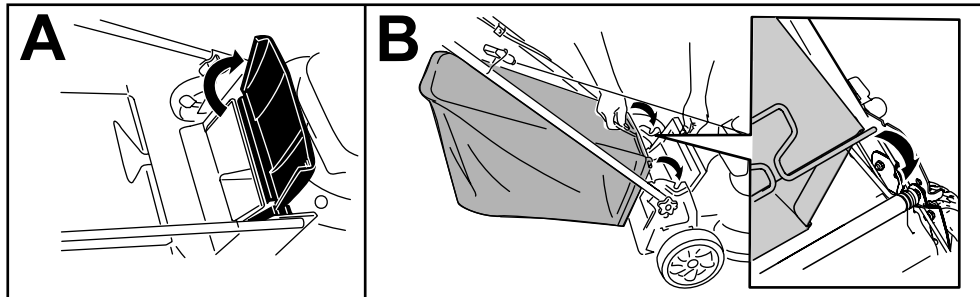

Figure 16
1. Raise and hold up the rear deflector (A of Figure 16).
2. Install the grass bag, ensuring that the pins on the bag rest in the notches on the handle (B of Figure 16).
Note: If the grass bag is on the machine, remove it before rear-discharging the clippings; refer to Removing the Grass Bag \(page 11\). The bag-on-demand lever should be in the BAGGING position as shown in Figure 16.